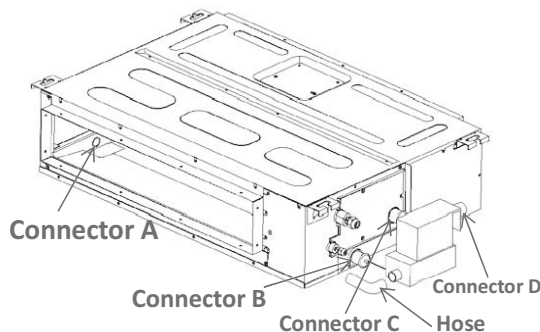

Fig. 42 —Condensate lift pump installation size 18K
- c. Connect the drainpipe to connector D (see Fig. 42).